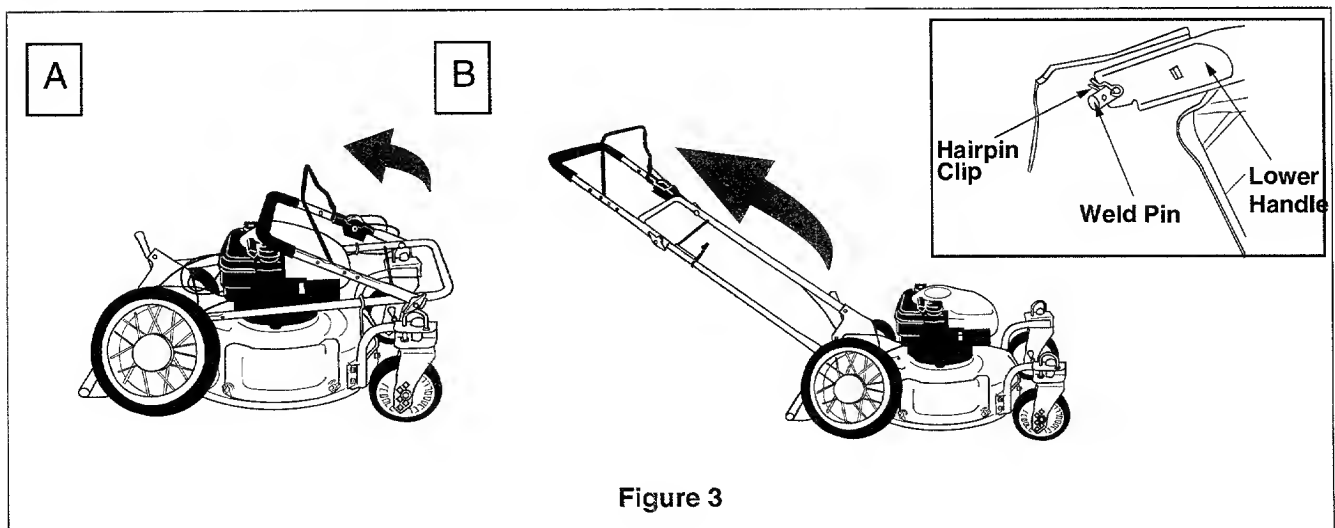

Figure 3
- Using a pair of pliers, insert the hairpin clip into the inner hole in the weld pin. Repeat on other side. See Figure 3 inset.